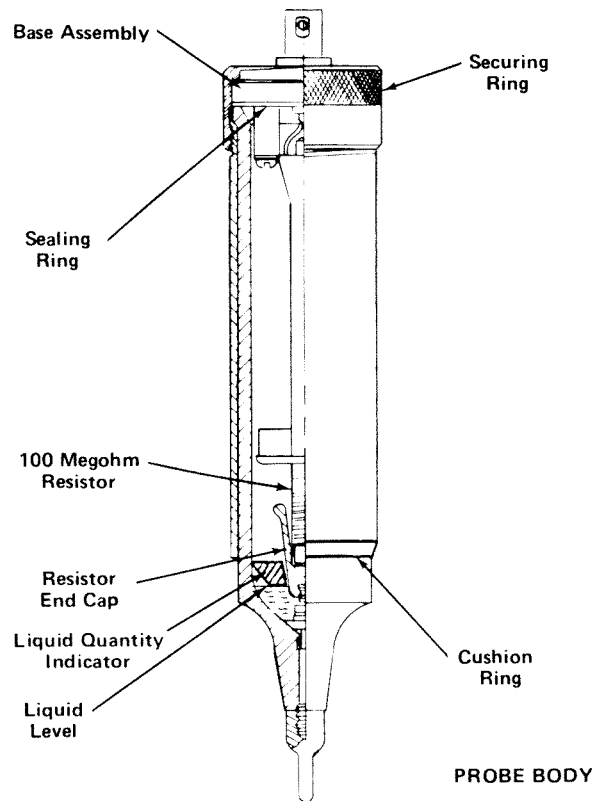

Fig. 3-1. Cutaway drawing of P6015 Probe.
Fluorocarbon 114 has a saturation pressure of about 2 atmospheres at room temperature. At room temperature, a small amount of liquid should be visible through the transparent nose of the probe when the probe tip is pointed down. Any liquid visible in the nose is an indication of proper pressure inside the probe. The saturation pressure increases with an increase in temperature, and at higher temperatures it is normal for all of the fluorocarbon 114 to be in a gaseous stage. The top of the Liquid Quantity Indicator, at room temperature, should be approximately 0.187 inch below the bottom of the metal shield sleeve (see Fig. 3-1).
1. Uncouple the two halves of the probe body cover and remove the probe body and cushion ring (see Fig. 3-1).
4. Hold the probe tip down and release fluorocarbon 114 into the probe body until the liquid level is approximately .125 inch above the small end of the gold-plated resistor end cap (see Fig. 3-1).